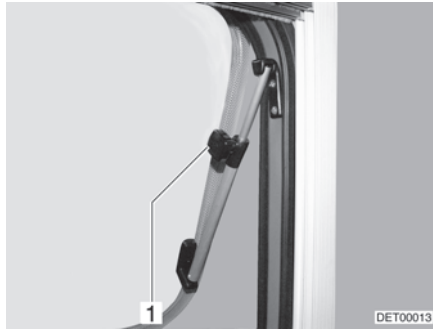

Fig. 89 Skylight with rotary hinges, open
- Open the skylight until the required position has been reached and use knurled knob (Fig. 89,1) to secure in position.
- Turn knurled knob (Fig. 89,1) until the latch is released.